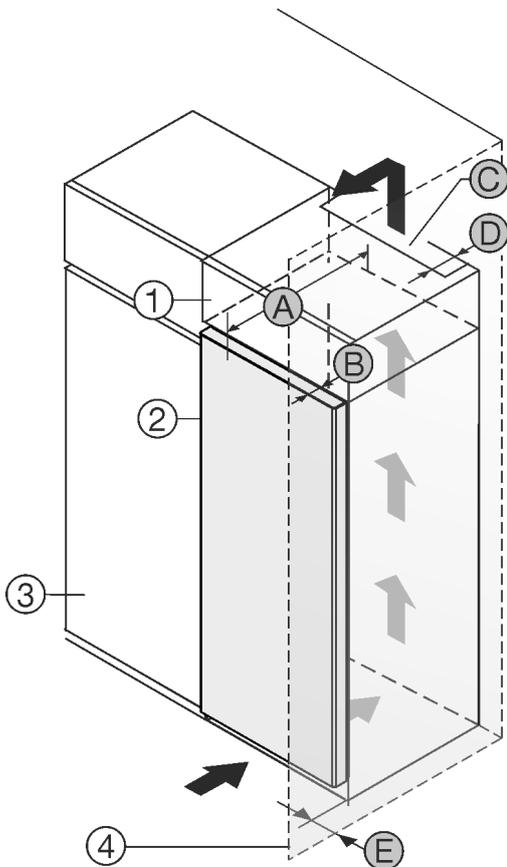

Fig. 1
Set up the appliance directly next to the kitchen cabinet Fig. 1 (3).
At the back of the top cabinet, there must be an air outlet shaft with the depth Fig. 1 (D) spanning the entire width of the cabinet.
The ventilation cross-section Fig. 1 (C) must be maintained under the ceiling.
If the appliance is set up with the hinges next to a wall Fig. 1 (4), the distance between the appliance and the wall must be at least 13 mm.
The appliance must protrude by the depth of the door Fig. 1 (B) from the front of the cabinet so that the doors can be opened fully. The appliance may protrude further depending on the depth of the kitchen cabinets Fig. 1 (3) and whether wall spacers are used.